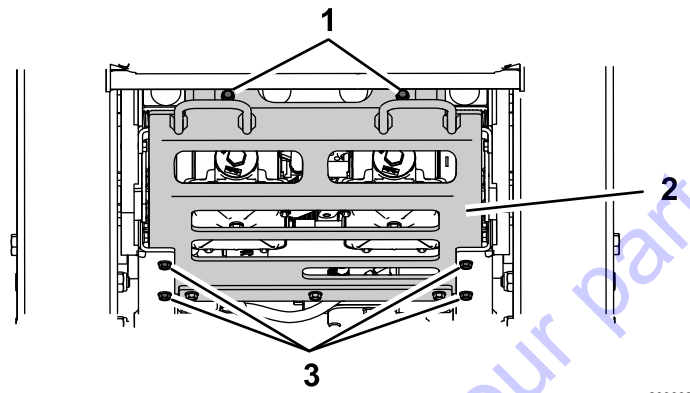

Figure 47
4. Remove the 6 bolts (2 rear, 4 side) from the skid plate and remove the skid plate (Figure 47).
15. Install the skid plate (Figure 47).